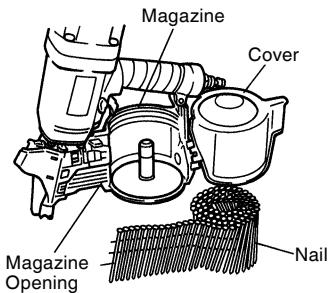

Fig. 4
- Load the nails in the magazine. Load the nails in the magazine. At this time, if the wound portion of nails is inserted after it is once pulled out beforehand, the subsequent work can be much facilitated. (Fig. 4)